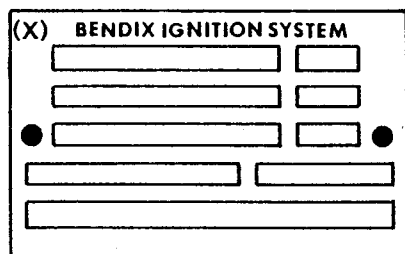

Figure 1. Location of "x" on Identification Plate
1. All subject magnetos with over 100 operating hours must have the distributor gears replaced or inspected prior to further flight, unless the magneto is identified by the letter "x" in the upper left corner of the identification plate (see figure 1). The "x" on the identification plate indicates previous compliance with this Service Bulletin.
6. After installing new serviceable gears, identify the magneto by stamping the letter "x" in the upper left corner of the identification plate, before the word "Bendix" (see figure 1).